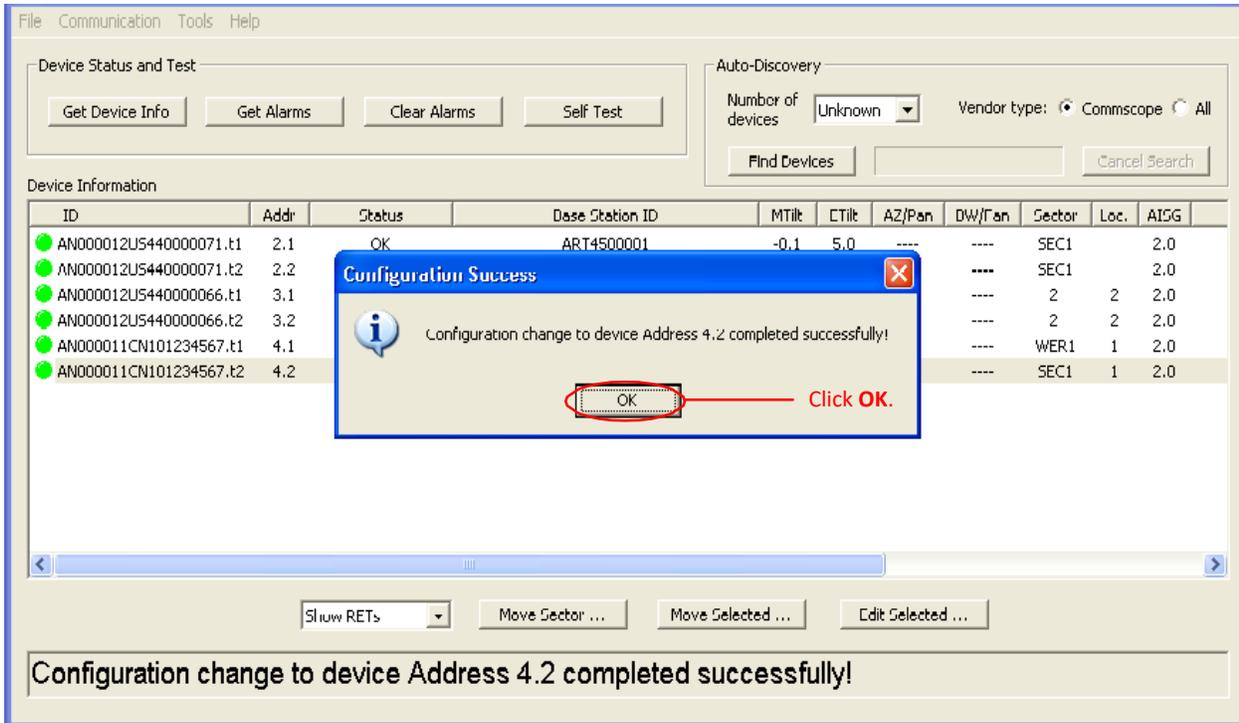

Figure 6-10. Confirmation of Configuration Changes to Device.
10. When the configuration process is complete, a pop-up dialog box will display the results. Normally, the dialog box will show that the changes were successfully sent to the device (Figure 6-10). However, if the configuration process was unable to communicate with the actuator for any reason, a failure message will appear.
11. Click **OK** (Figure 6-10) to dismiss the pop-up dialog box. The main screen will display the results of the device configuration.